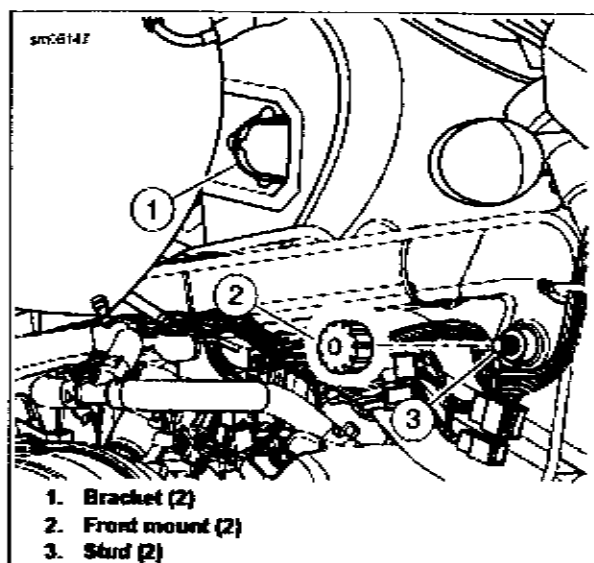

Figure 6-5. Front Mount
1. See Figure 6-5. Remove fuel tank.
- a. Slide fuel tank back and away from front mounts (2).
1. See Figure 6-5. Install fuel tank brackets (1) on front mounts (2).